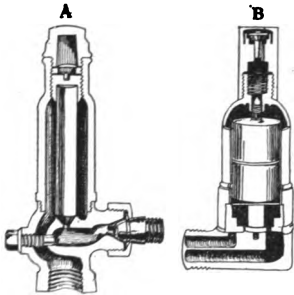

FIG. 33. Vents for radiators.
**69. Radiators.** Radiators (*B*, Fig. 31) are made of rather complicated coils of pipe, so often an accumulation of air lodges in them. This interferes with the circulation of the water and the radiator does not get hot. There usually is a vent (*A* and *B*, Fig. 33) attached to each radiator to let out air which collects there. If a radiator does not heat well, open the air vent until the air ceases to flow from it and water comes; then close it.